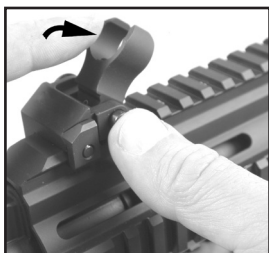

Fig. 12 – Folding (lowering)
2. Apply one drop of tread locking compound to the exposed threads of the clamping screw. Replace the clamping plate and tighten the clamping screw while pushing sight forward against the cross-slot (Fig. 11). To raise the sight, grasp and pull up until the sight locks in the upright position. To fold the sight, depress the button on the left side of the base and fold down. (Fig. 12)